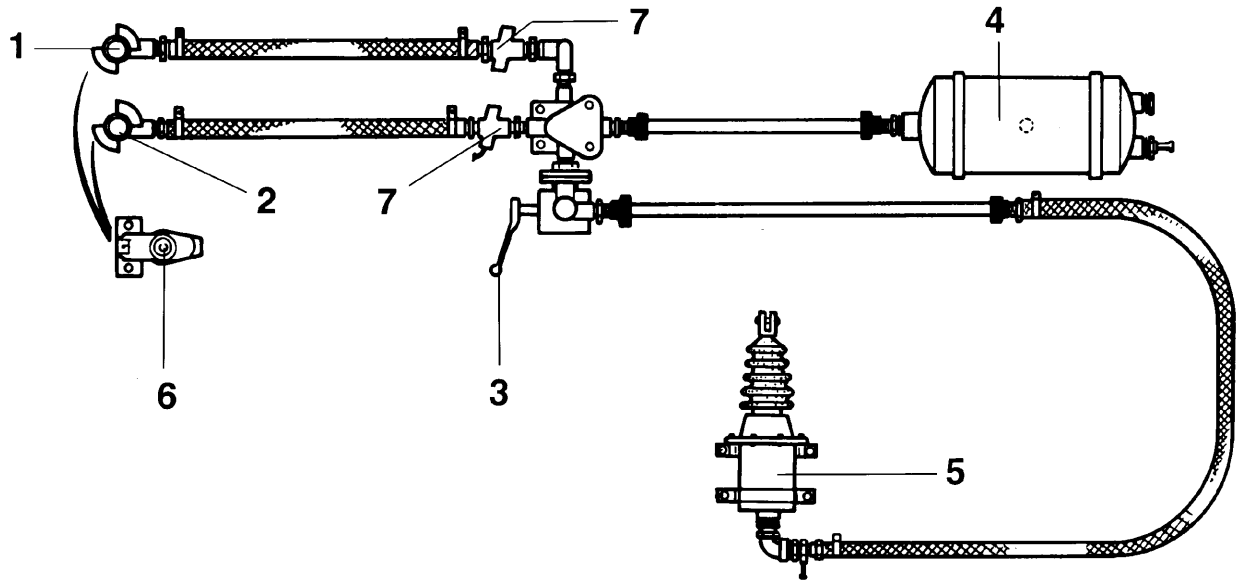

Fig. 57
2. Check cleanliness of coupling heads before coupling and pay attention to a proper fitting! The hose coupling (Fig. 57/1) for the brake line has a yellow marking. The hose coupling (Fig. 57/2) for the supply line has a red marking.
4. Check hand brake position (Fig. 57/3 of braking power governor!
5. If necessary, drain the compressed-air container (Fig. 57/4) Conduct a braking test!
6. Check the piston stroke of the braking ram! Only two thirds of the braking rams stroke (Fig. 57/5) may be used. If this is not the case, adjust the brake! Replace damaged dust covers!
7. After coupling off, hang the coupling heads into the dead couplings (Fig. 57/6) on the **ZG-B**!
1. Hydraulic socket and hydraulic plug (Fig. 57/7) for cleanness before coupling and observe proper fitting!